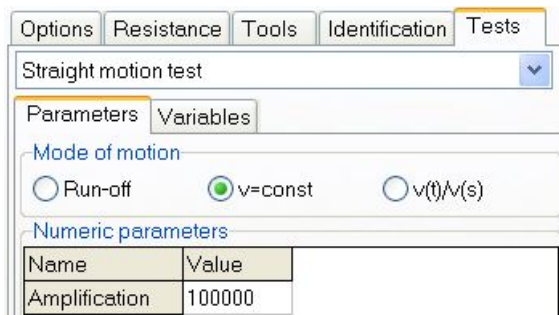

Fig. 57 Test parameter
- 1) Select the corresponding type of the test, Fig. 57. The test parameter is used in control of the speed history, which will be constant in our test. The amplifier is not used if the 'Run-off' speed mode is set.